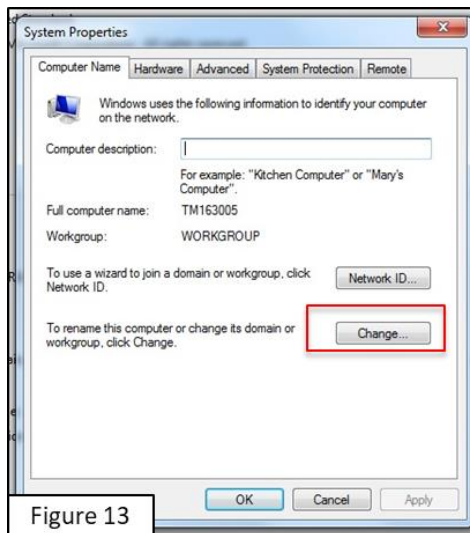

Figure 13
- Click **Rename this PC** (as shown in Figure 13) ◦